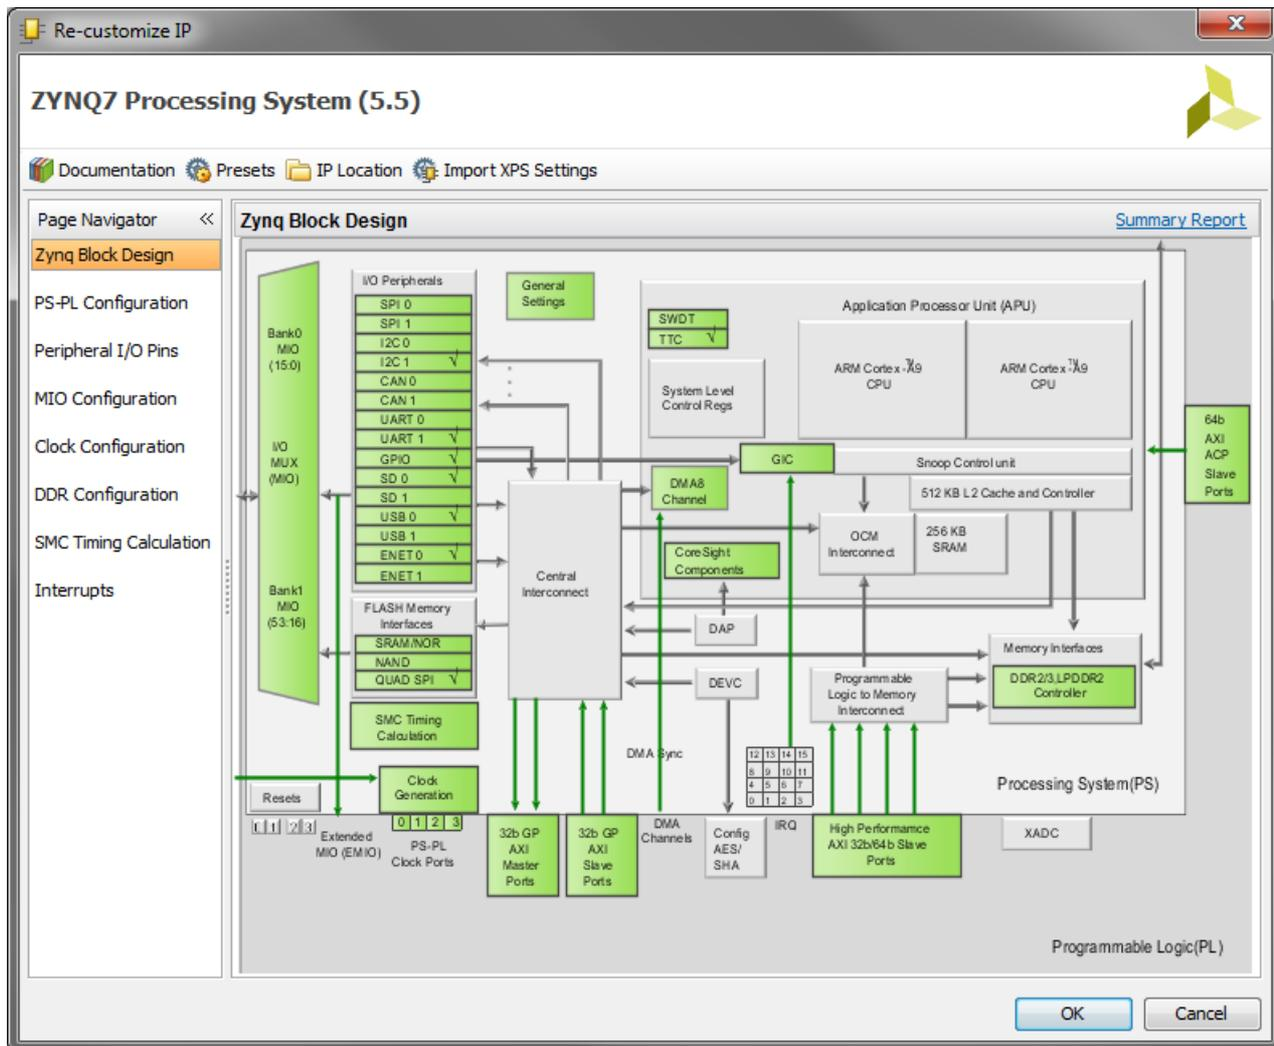

Figure 5.16: Re-customize IP window for Zynq PS
- (b) Double-click on the **Zynq7 Processing System** block to open the Re-customize IP window, as shown in Figure 5.16.